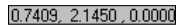

**Figure 4-15:** Dynamic absolute coordinates.
- ♦ **Dynamic absolute coordinates (absolute):** Absolute coordinates that change as you move the mouse, as shown in Figure 4-15.